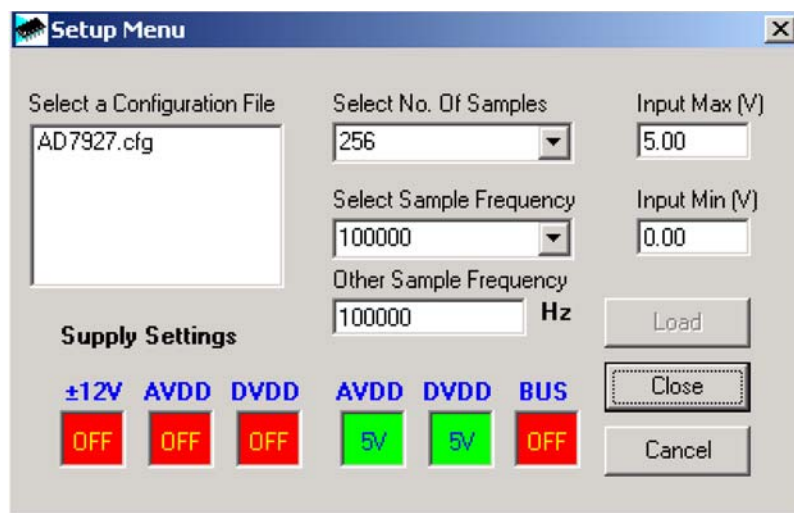

Figure 5. Setup Menu Dialog Box
- **Setup Menu.** Select this option to display the **Setup Menu** dialog box, as shown in Figure 5.
The **Setup Menu**, shown in Figure 5, allows you to load the required configuration file for the evaluation board. When the configuration file is loaded, the software acquires detailed information about the evaluation board and the ADC connected to EVAL-CONTROL-BRD2. This includes information such as the number of bits, maximum sampling rate, type of output coding, maximum analog input, and power supply requirements.